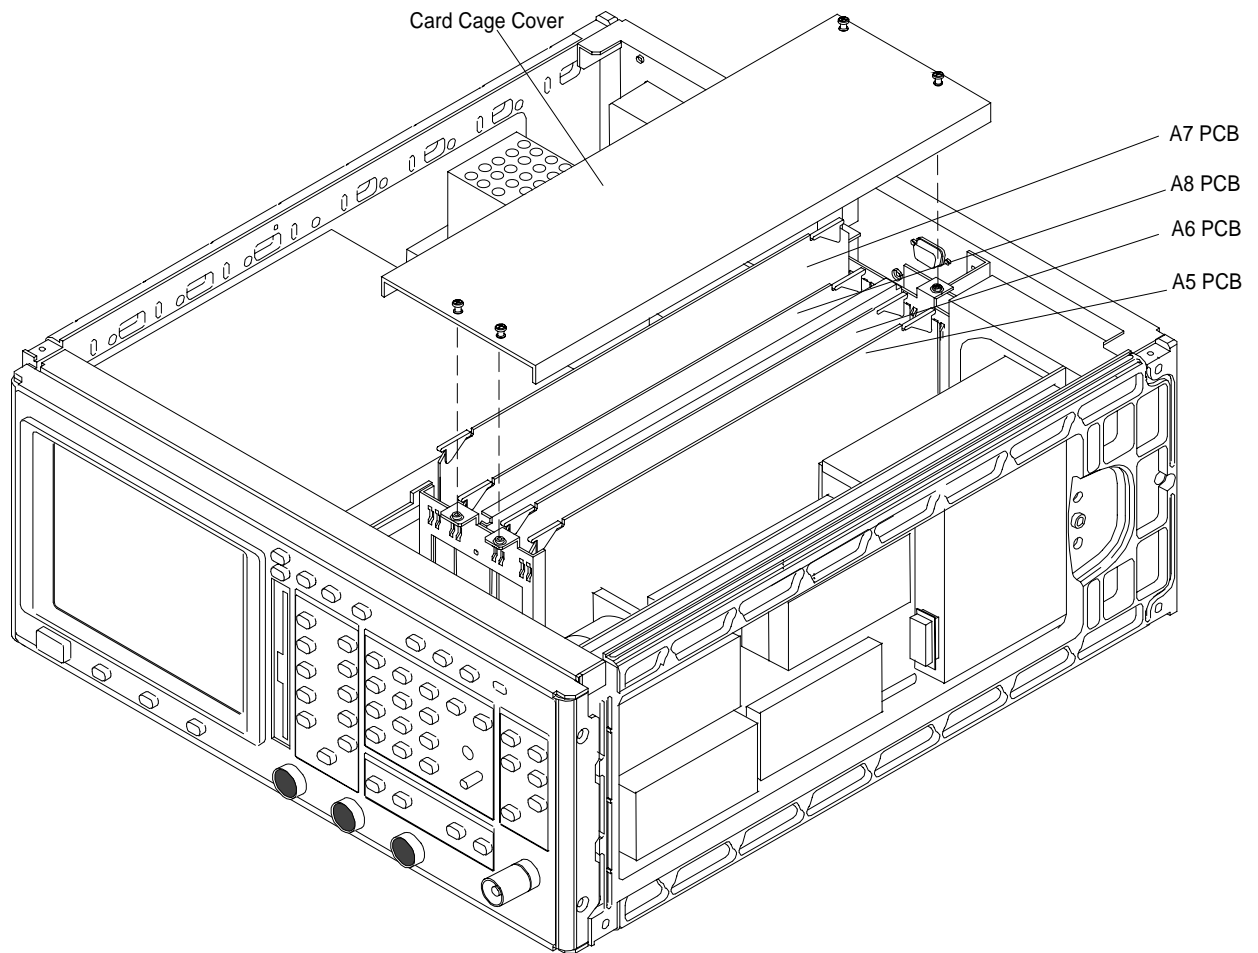

Figure 7-2. Exploded View of A5, A6, A7 and A8 PCBs
- Step 2.*** Loosen the four captive screws on the card-cage cover (Figure 7-2).